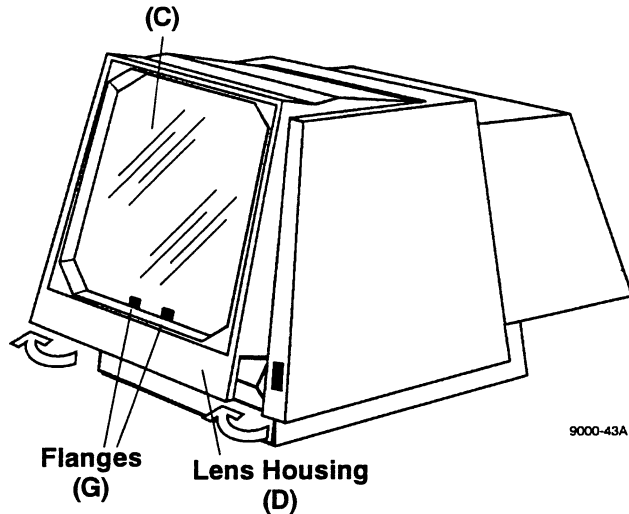

Figure 5-2. Replacing Front Lens or Glass
2. Tilt lens housing (D) up. Figure 5-2.
The flanges (G) on the dust shield and lens clamp (F) must hold the lens/glass (C) in place. Figure 5-2.
2. Tilt the lens housing up. Figure 5-2.
3. Remove the bottom entrance lens (O) from the front.
3. Remove pivot rod (J) by pulling out.
When replacing the cover, make sure the lens housing (D) is tilted up! Figure 5-2. Be certain the tabs (M) on the front of the lens bracket (E) are inserted into the slots (N) on the front of the top cover (B). Figure 5-1.